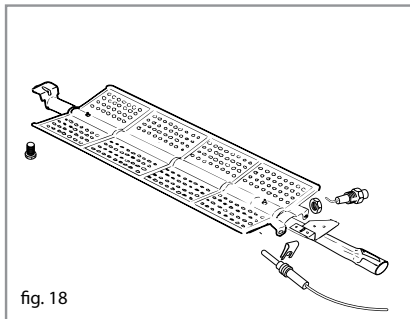

fig. 18
3. Remove the securing screw at the left hand side of the burner, as shown in fig.18